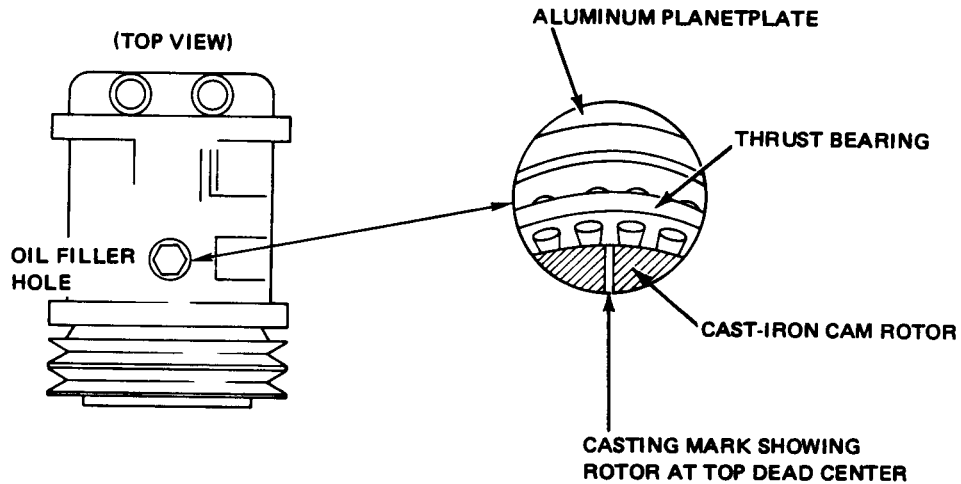

Figure 14-8a. Top Dead Center Casting Mark (Sankyo Compressor)
4. Position the rotor to top dead center (refer to Figure 14-8a) by rotating the clutch front plate until the casting mark is visible in the center of the hole.